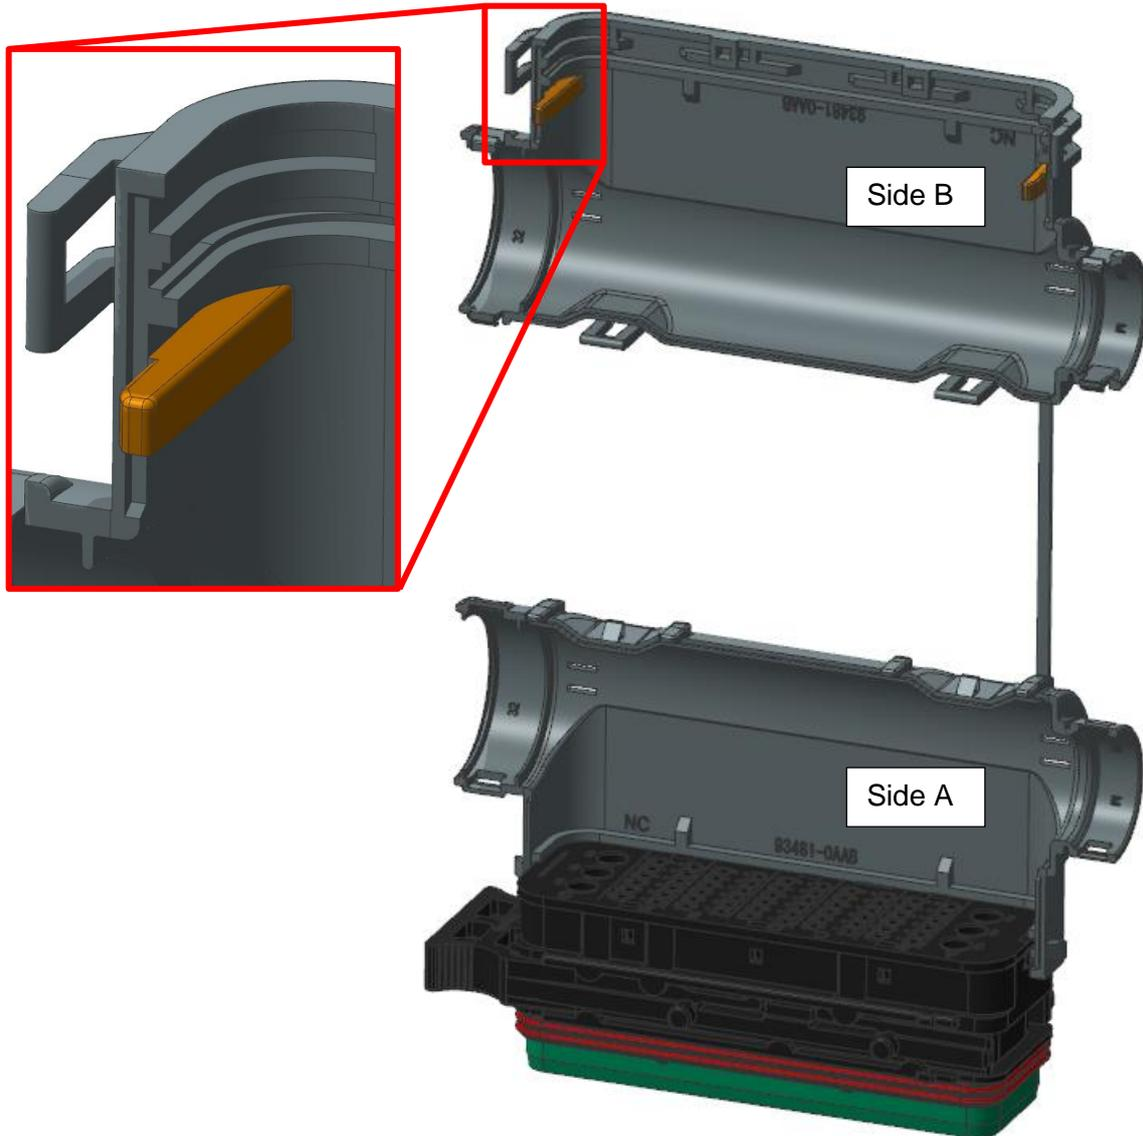

Figure 4.36: Female conduit assembly sequence onto connector (Conduit interface Grey for reference only & Anti twist tab orange for reference only)
- **Special case for female conduit interface assembly:** (see Figure 4.36) "Side A" **MUST** be placed onto the connector first to avoid incorrect fitment of conduit interface on female connector assembly.